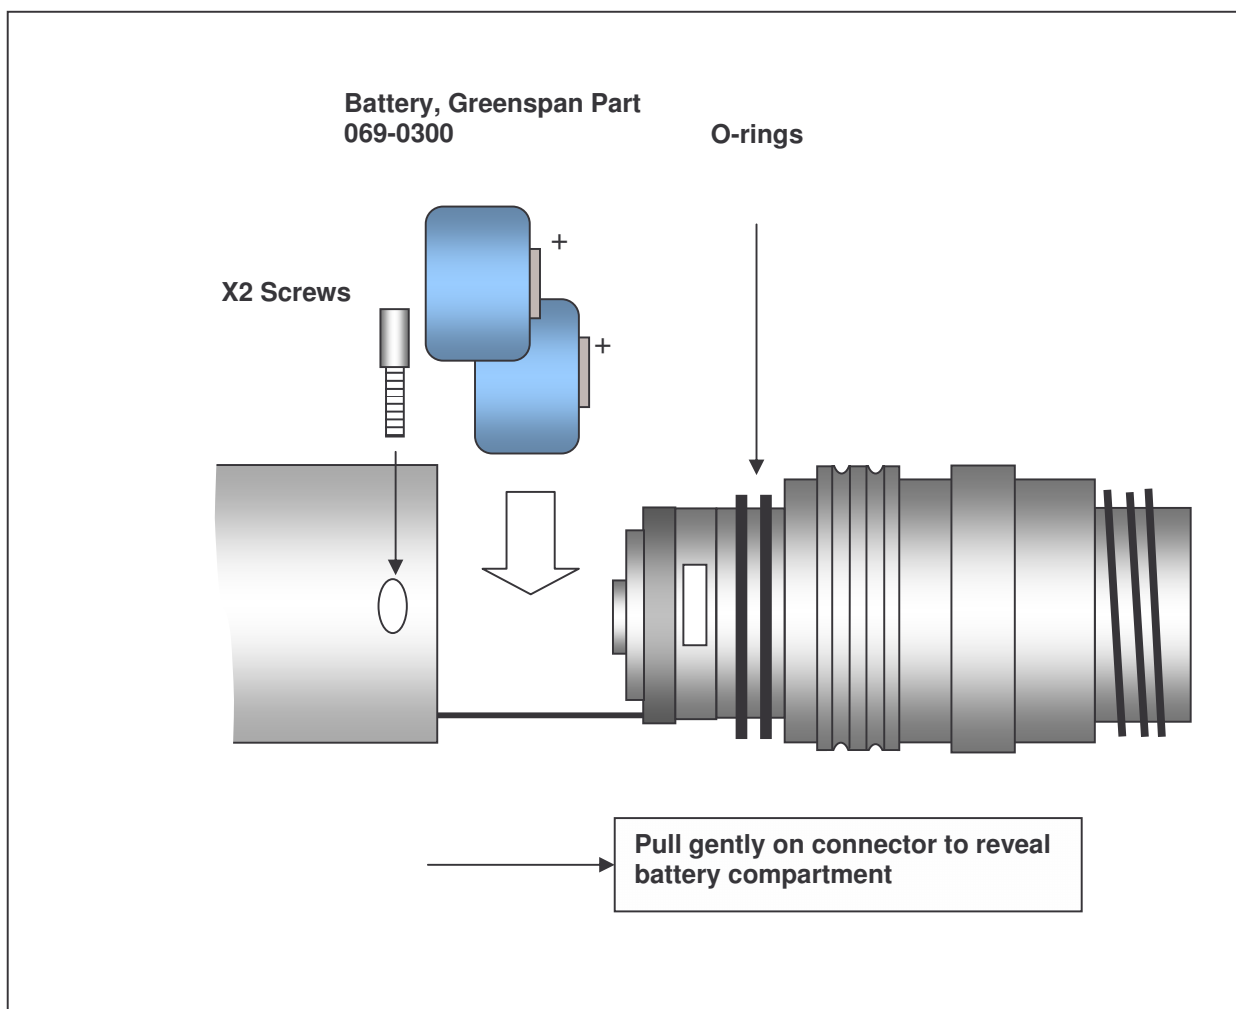

Figure 1: Battery Installation
If using the internal battery pack, batteries supplied with the sensor must be installed prior to use as follows (see Figure 1):
- Install two ½ AA 3.6 Volt, 1.2A/hr Lithium batteries into the battery housing ensuring that orientation is as per the label on the connector arm, see Figure 1.